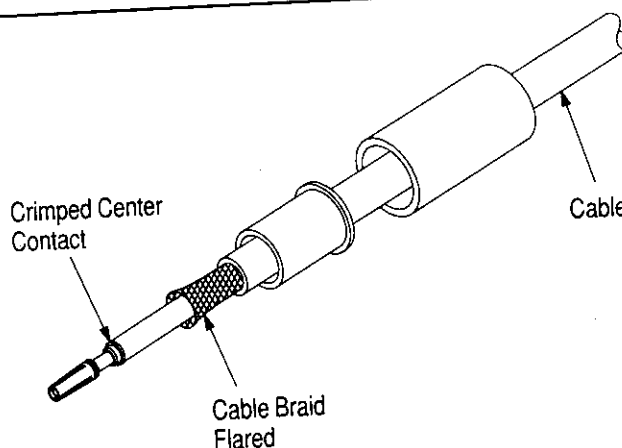

Figure 3
3. Crimp the center contact using the tool frame assembly fitted with the appropriate die assembly. See Figure 3.
4. Flare the cable braid, as shown in Figure 3, to allow the support sleeve of the plug body to pass under the cable braid.